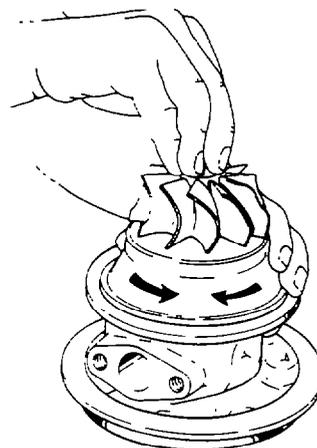

Fig. 156 — Rotating Wheel Shroud
- m. If the piston ring binds in the shroud or housing, do not force the ring; apply a gentle downward pressure on the turbine wheel and at the same time rotate the wheel shroud (see fig. 156); this action will allow the piston ring to seat in the bore.